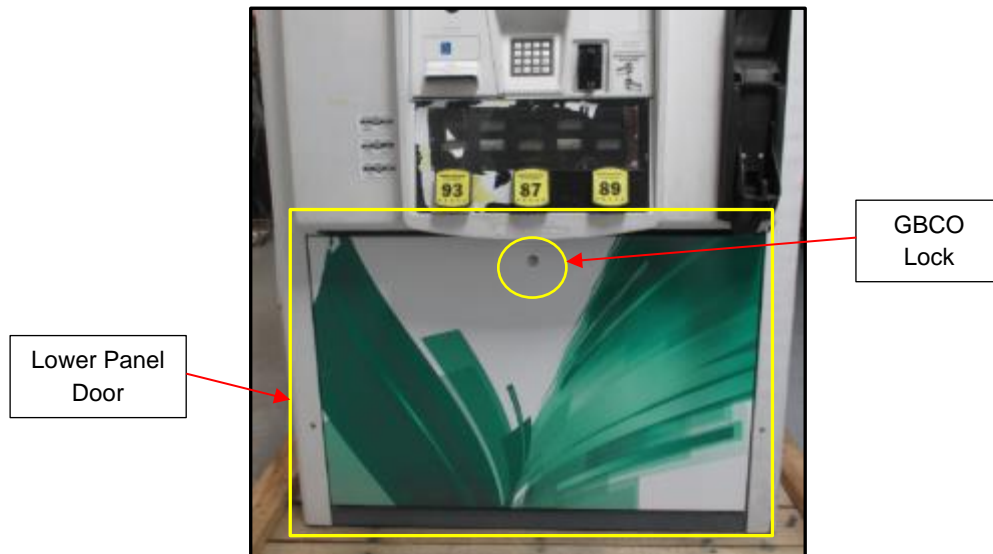

Fig 1.1 – Location of Panel Door and Lock
3. Unlock and remove the panel door with the "GBCO" key. Set it aside. Do not discard the lower door. It will be re-installed later during the installation procedure. (Fig 1.1)